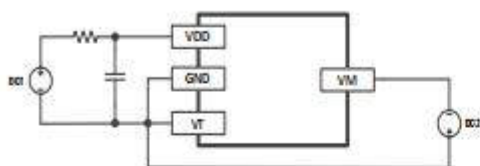

Figure6-1
- According to the figure6-1, connect the power supply DC1 to the B + and GND pins of the system board and set the voltage to about 3.6V. Connect the power supply from GND to VM to DC2 power supply and set 100mV current limiting 10mA. Observe the waveform.